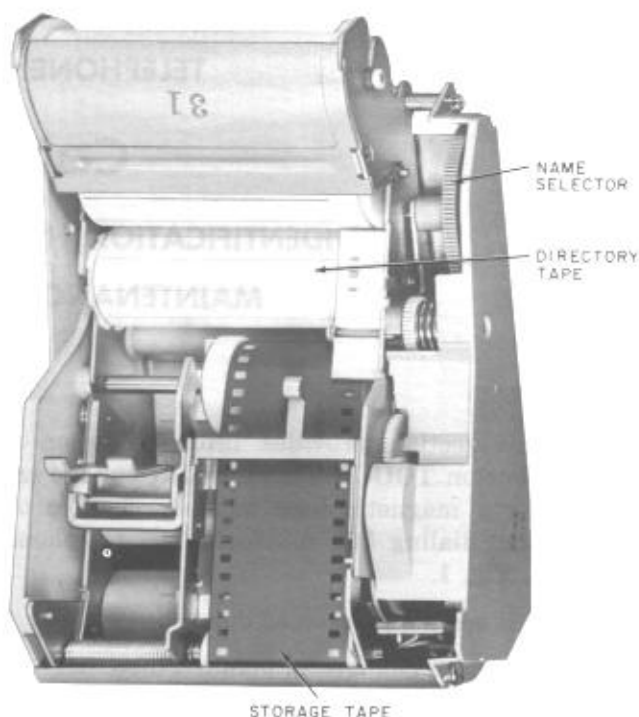

Fig. 2 — 1A Tape Cartridge — Bottom View
2.07 A customer-removable tape unit (1A cartridge, Fig. 2) is provided for typewritten entry of names and telephone numbers. Thirteen
- (1) *Directory Tape* (Fig. 2) has 50 index designations and provides spaces for entering 500 names and numbers. Five index positions (50 spaces) numbered 1 through 5 are for entering names that are called frequently or in sequence, such as sales contacts. These names may be listed functionally rather than alphabetically. For example: Members of a business group that are likely to be called in sequence might be entered in one of the five groups. The remaining 45 designations (alphabetical) provide space for 450 names and numbers.